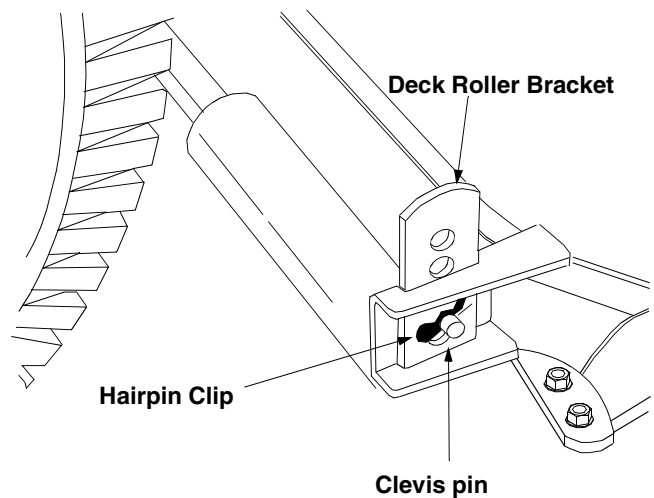

Figure 5
- Adjust the deck roller height so that the clevis pins are inserted in the second hole (from the top) of both the left-hand deck roller bracket and the right-hand deck roller bracket. See Figure 5 or refer to **Deck Roller Height Adjustment** on page 9 for more detailed instructions on adjusting the deck roller upward or downward.
- Pull the deck support pin (on the left side of the deck) outward and align it with the hole on the rear of the left deck lift arm before releasing the pin to lock it in place as shown in Figure 5. Repeat on the right side.
- Remove the clevis pins and hairpin clips from the deck roller brackets on the left and right sides of the cutting deck. See Figure 5.
- Position the deck roller brackets up or down through the slots on the rear of the deck until desired position is reached, then re-attach with the clevis pins and hairpin clips just removed. See Figure 5.